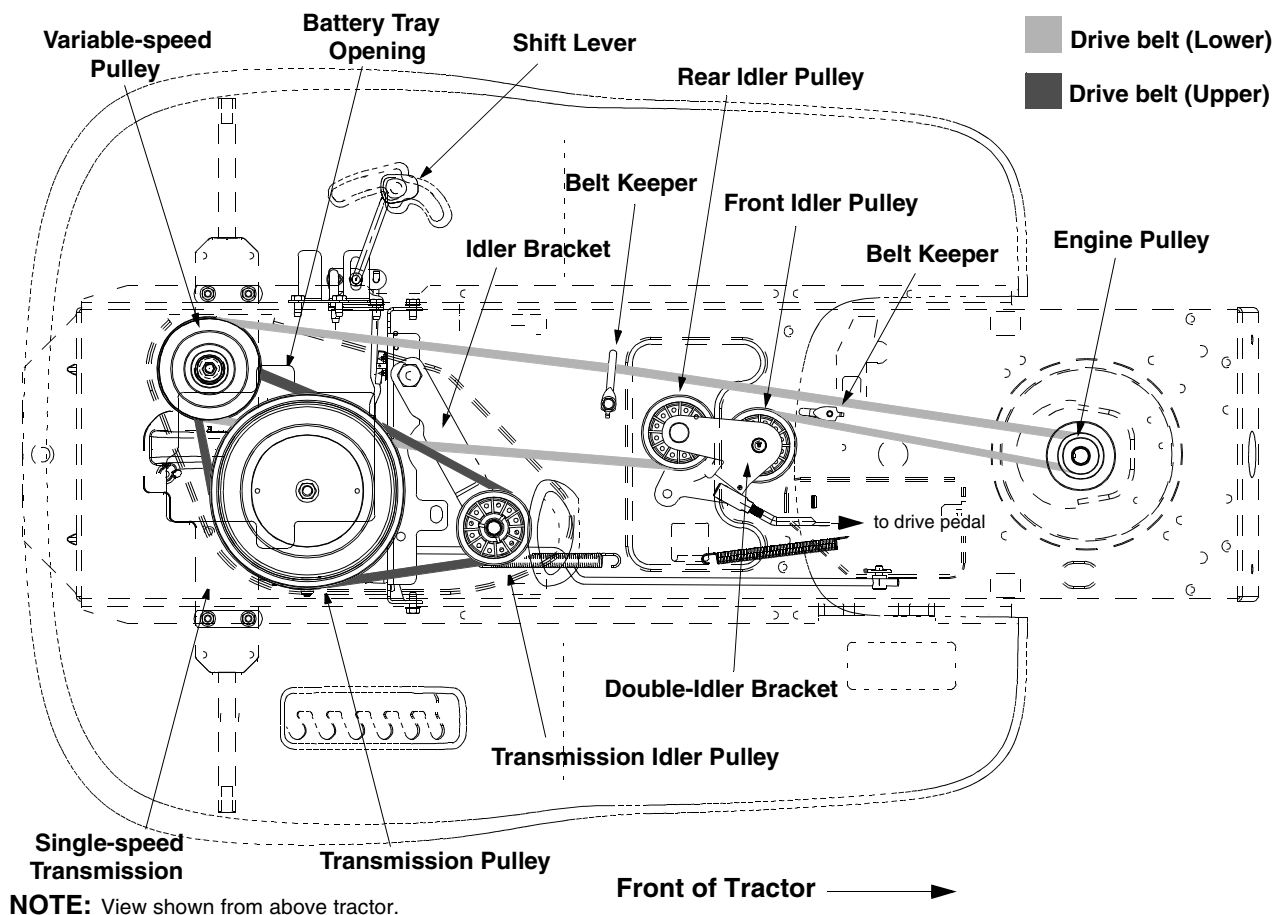

Figure 16
- Locate the transmission idler pulley on the upper drive belt by looking through the battery tray opening. See Figure 16.
- Reroute the new upper drive belt as shown in Figure 16.
- Locate the variable-speed pulley by looking through the battery tray opening. See Figure 16.
- Remove the drive belt by feeding it from both ends toward the front idler pulley on the double-idler bracket. See Figure 16.
- Reroute the new belt around the pulleys and belt keepers **EXACTLY** as the old one was routed. Refer to Figure 16.